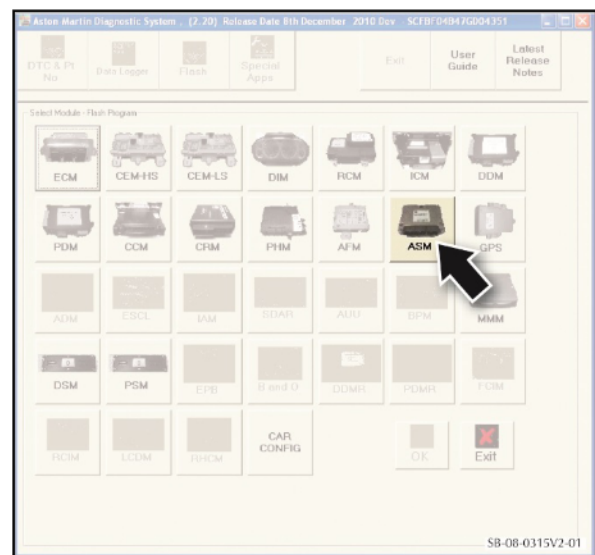

Figure 1
2. Update the ASM control module with the latest version of the software (refer to Figure 1).